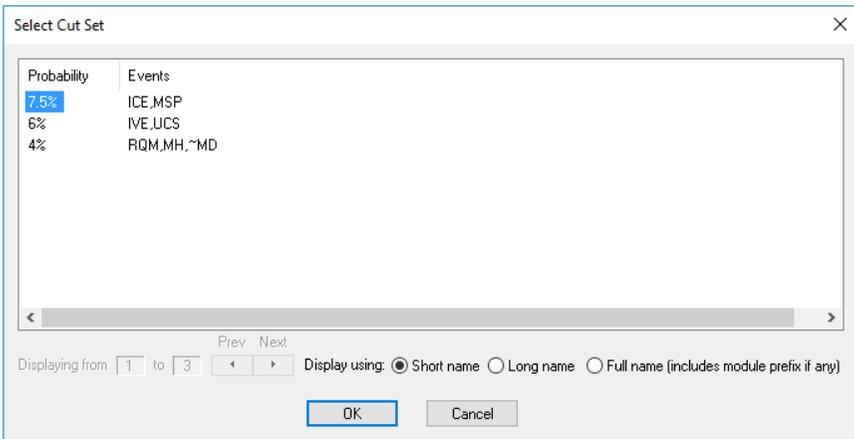

Figure 6-2. Select Cut Set Dialog for Secure Facility
- ⇒ Double-click the cut set view to bring up the Cut Set dialog. See Figure 6-2.